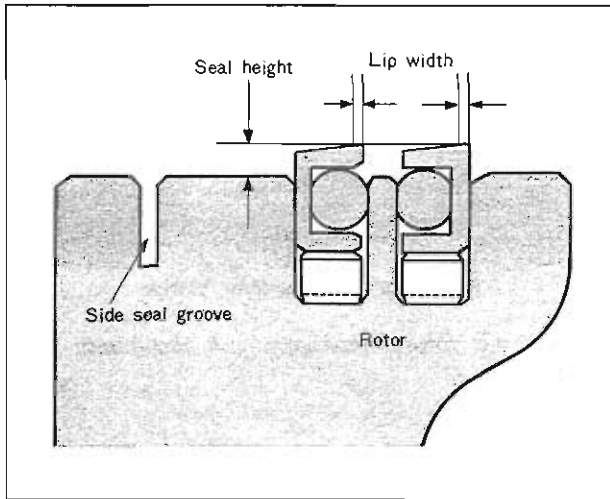

Fig. 1-45 Checking oil seal
2. Check the oil seal protrusion as shown in Fig. 1-45 and confirm the free movement by pressing with finger. The protrusion should be more than **0.5 mm (0.02 in)**